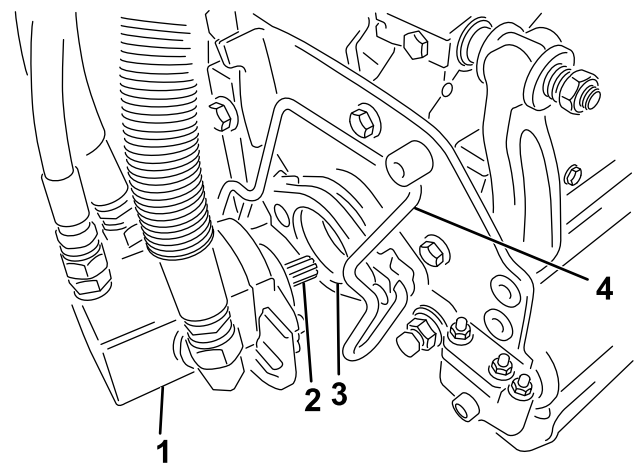

Figure 54
5. Coat the spline shaft of the cutting unit motor with clean grease (Figure 54).
6. Insert the motor into the left side of the cutting unit (as viewed from the operator's position) and pull the motor retaining bar on the cutting unit toward the motor until you hear a click from both sides of the motor (Figure 54).